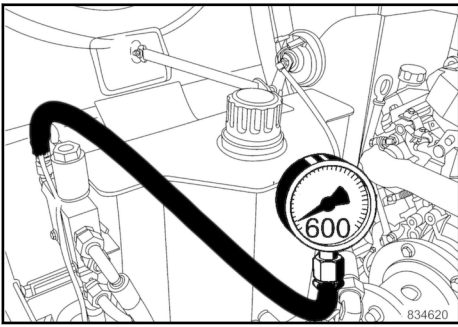

Fig. 118
2. Connect a 600 bar pressure gauge to the pressure test port on the vibration valve ↪ Fig. 118.